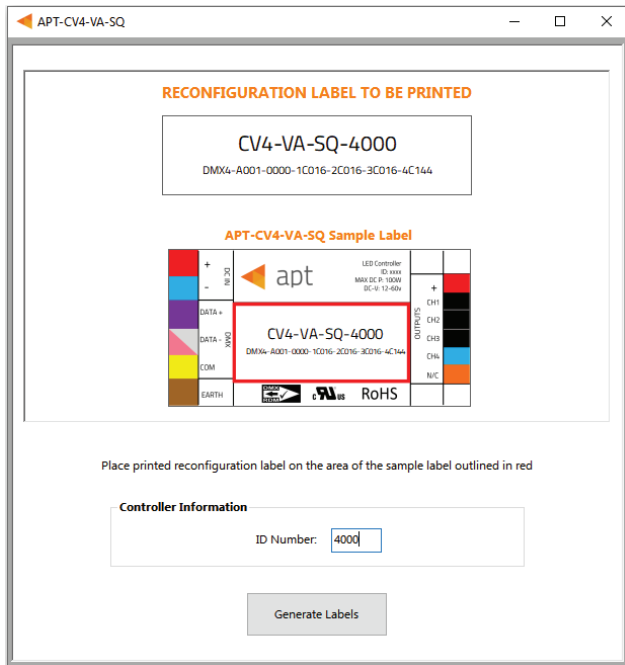

Figure 16: Label Generation window
- 1 Select **File > Generate Label** or press **Ctrl +L** to open the Label Generation window (shown in Figure 16).
- 2 Input the 4-digit **ID Number** written on the original label (shown in Figure 16). The ID Number indicates the production build of the APT Controller.